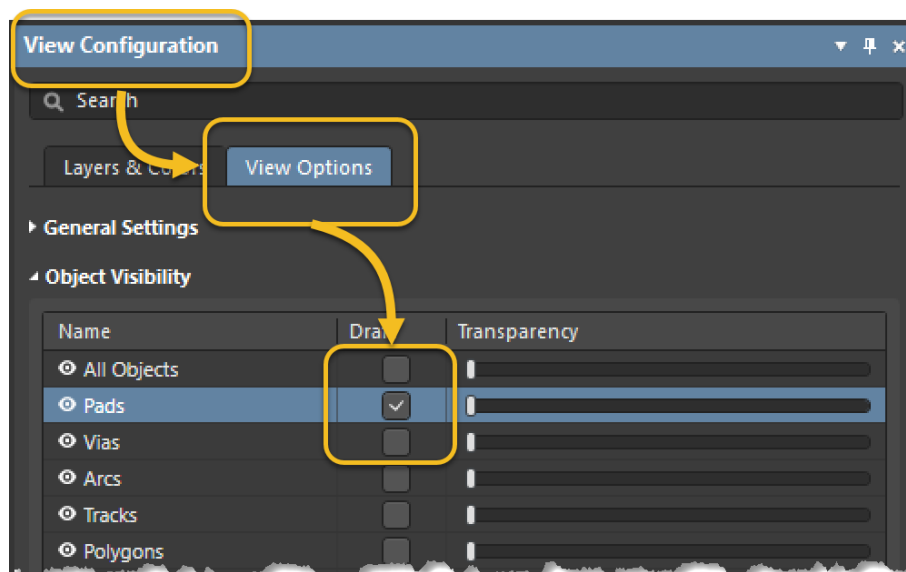

Figure 4. View Configuration Dialog
18. Select the *View Options* tab in the *View Configuration* panel and select the **Pads Draft** checkbox. See Figure 4 below.